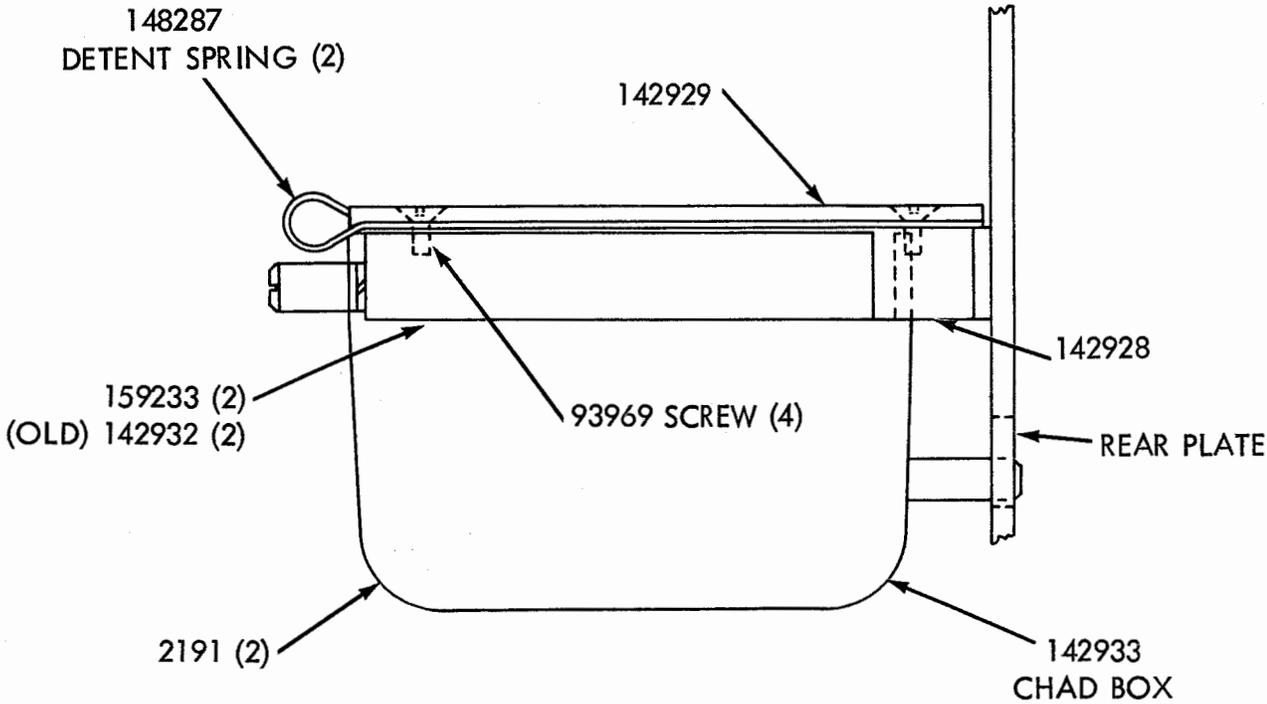

FIGURE 1.
2. INSTALLATION (See Figure 1)
b. Assemble the two 159233 Studs and two 2191 Lock Washers as shown on Figure 1.
c. Position the two 148287 Detent Springs as shown on Figure 1 and assemble with four 93969 Screws removed and retained in Paragraph 2.a.